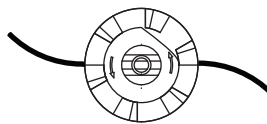

Fig. 21
- Remove any old line from the inner reel or obstructions from the outer spool. (Fig. 21)